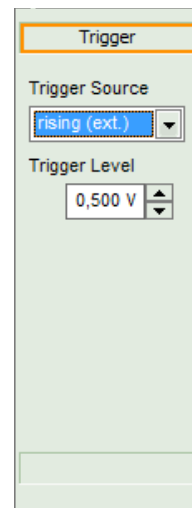

Fig. 25: Setting the trigger level
- external triggering via a TTL signal, either on the rising edge (labeled *rising (ext.)*) or falling edge (labeled *falling (ext.)*). In both cases, an additional input field is shown that allows to set the trigger level (see Fig. 25). In this case a TTL signal must be connected to the TTL input on the front panel of the Solea (see chapter 4.1 Interface / Front Plane)